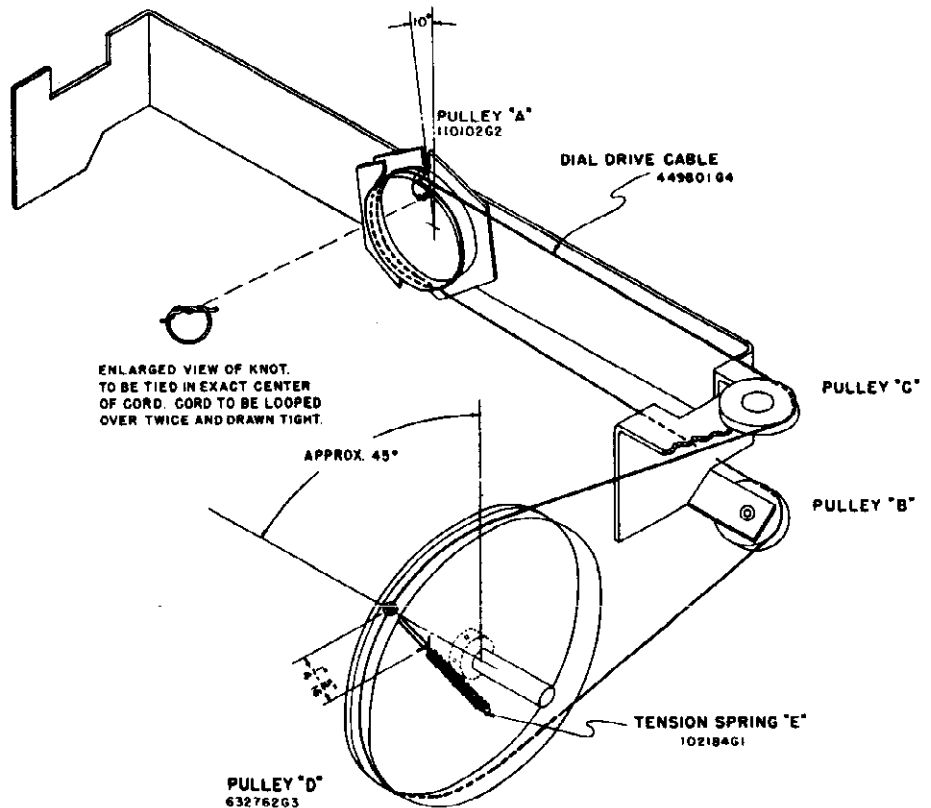

FIGURE 1
1. Remove the signal generator lead from the 6SA7 grid and connect it to the radio antenna terminal through the .00025 mfd. capacitor. The ANT-LOOP switch (60) must be in the ANT. setting.
2. Check the tuning dial pointer adjustment. When the plates of the tuning condenser are completely meshed, the dial pointer must be in line with the last calibration mark at the low frequency end of the dial. If it is not, loosen the set screws in the hub of pulley "D" shown on Figure 1 and make the necessary adjustment.
5. If the loop antenna trimmer is out of adjustment, it should be set after the radio chassis is in the cabinet. Set the ANT-LOOP switch (60) to the LOOP position. Adjust the signal generator to 1400 kilocycles and connect its output to a loop containing approximately five turns of wire eight inches in diameter placed eighteen inches from the receiver loop and in the same plane.
Rotate the brass pulley designated "A" in Figure 1 until the dial pointer strikes the stop at the high frequency end of the dial calibration. In this condition the slot in pulley "A" should be approximately ten degrees to the left of being vertical—see Figure 1. If the slot in the pulley is in some other position under the above mentioned conditions, the pointer set
Completely unmesh the condenser gang and check the location of the hole or slot in pulley "D." If this hole is not approximately 45 degrees back from vertical as shown on Figure 1, loosen the two No. 6 Allen set screws in the hub of pulley "D" and slip the pulley on its shaft (while holding the condenser gang unmeshed) until the specified adjustment is obtained; then tighten one of the set screws securely. It will be shown later that this is a temporary setting. Next, tie a double knot in the exact center of a 25-inch length of dial cable and fold the cable back on itself so that the knot is at one end. The correct method for tying this knot is shown as an inset on Figure 1. Grasp the cable near the knotted end and slide it into the pulley slot so that the knot is against the inside rim of the pulley as shown in the sketch. The piece of cable nearest the dial frame should be wound in the direction shown for one-half turn; then over the lower pulley "B," around the bottom of the large pulley "D" and into the hole. Pull the cable